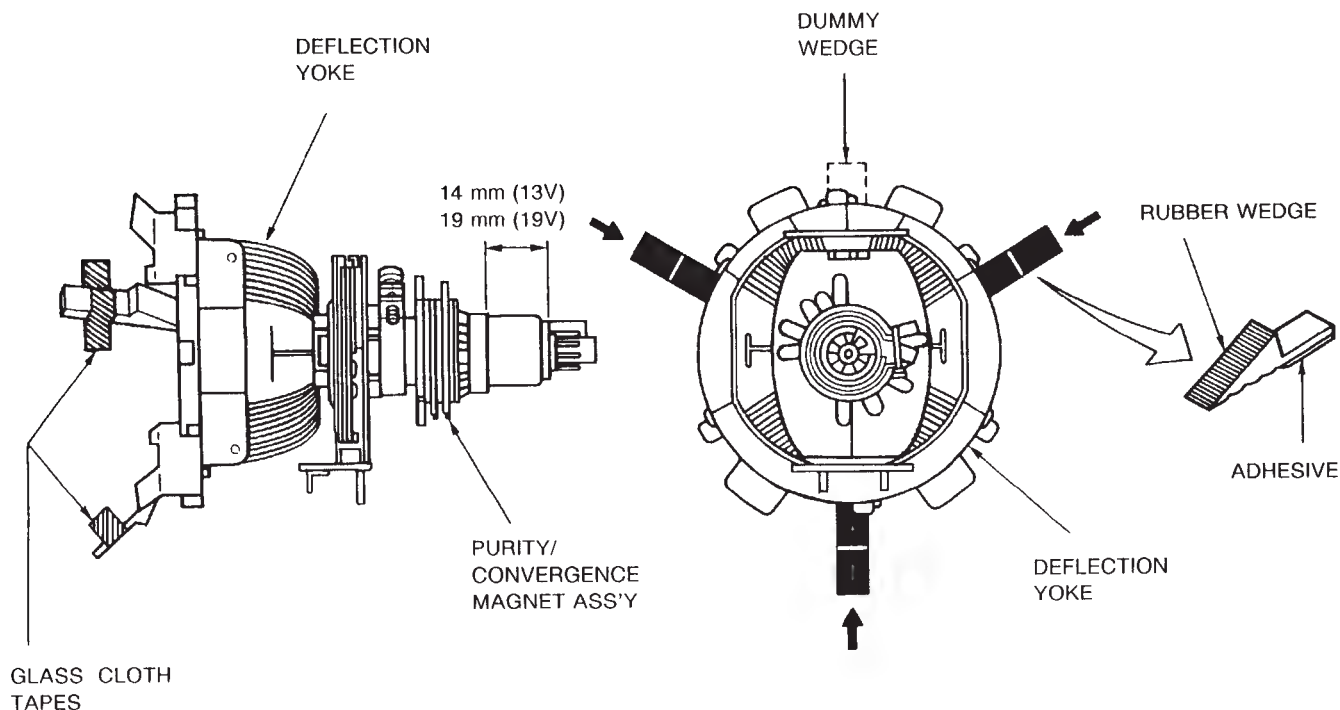

Figure 2.
Refer to figure 2.
2. Temporarily put a wedge as shown in figure 2. (Do not remove cover paper on adhesive part of the wedge.)
9. Stick three adhesive tapes on wedges as shown in figure 2.